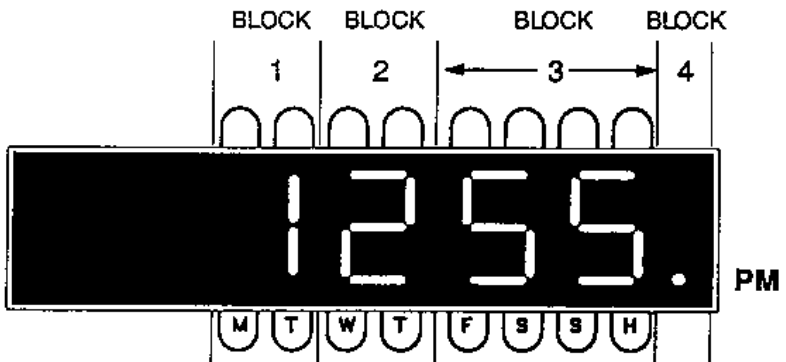

Figure 7: Status Blocks
Figure 7 on the next page illustrates the organization of Program Status and Input Status information, which is described in the sections on Program Review (Step A: *Program Status* on p. 32) and Input Review (p. 34). The "Status Blocks" shown here are locations on the display where status information appears. In particular, Blocks 1 and 2 consist of the two middle digits of the display, Block 3 is the two rightmost digits, and Block 4 is simply the decimal point. When these blocks contain the characters described in the adjoining chart, they can tell you much about the program or input you are reviewing.
1. Press **REVIEW**. Program status displays. See Figure 7 for status information.
3. Press **ENTER**. Status displays. See *Figure 7* for status information.